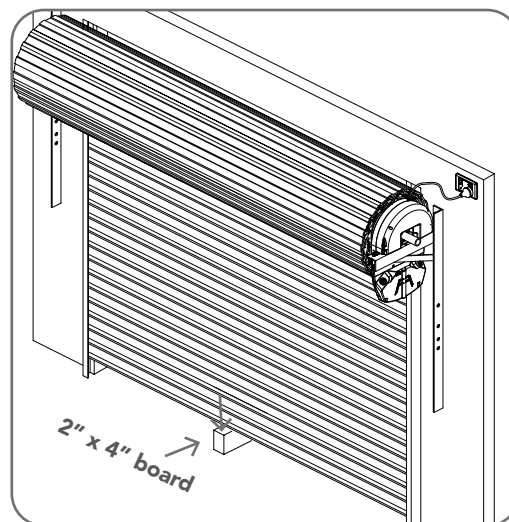

Fig 6.6.1
- Place a piece of timber approximately 40mm high on the floor directly under the door (**Fig. 6.6.1**).